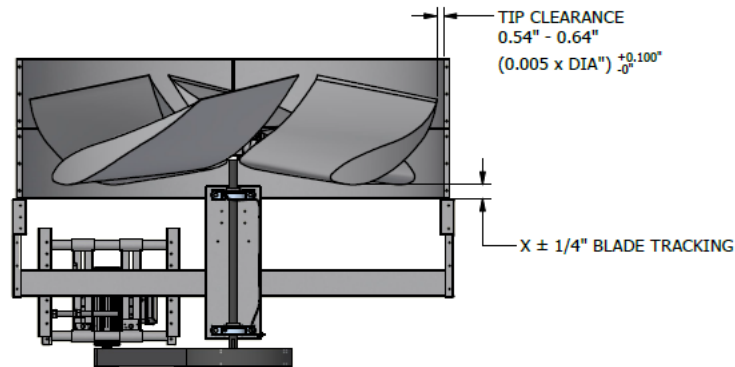

Figure 54: Tip clearance and tracking
1. Rotate the fan by hand and check the tracking and tip clearance per **Figure 54**.